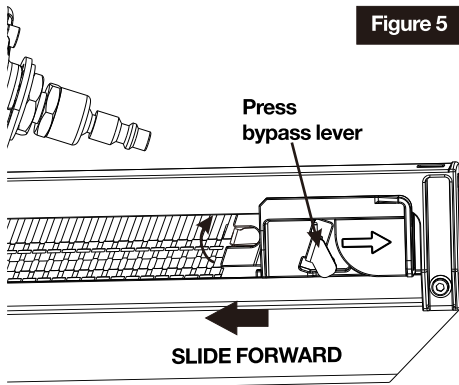

Figure 5
2. Pull back the pusher, pressing bypass lever of the pusher to allow pusher to bypass nails and slowly allow pusher to return to nose of the tool. (See figure 5)